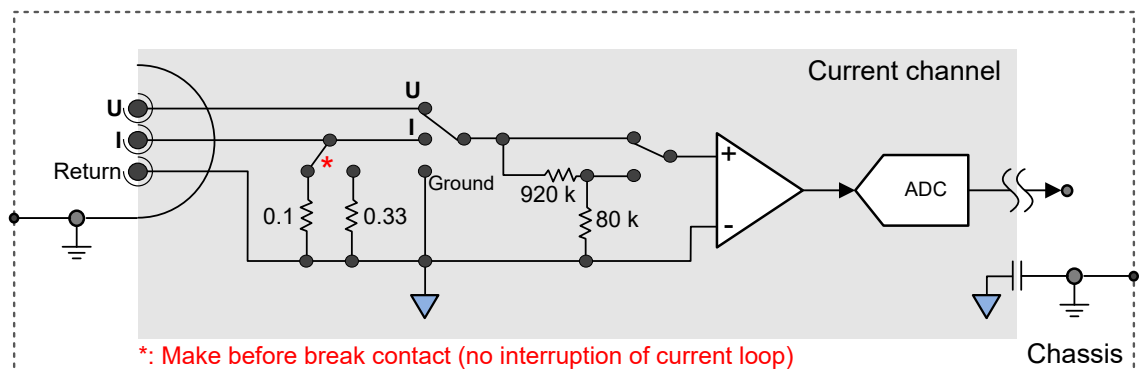

Figure 12.6: Single-ended isolated current channel
- The isolated ground is externally accessible and is current return line, as shown in Figure 12.6.